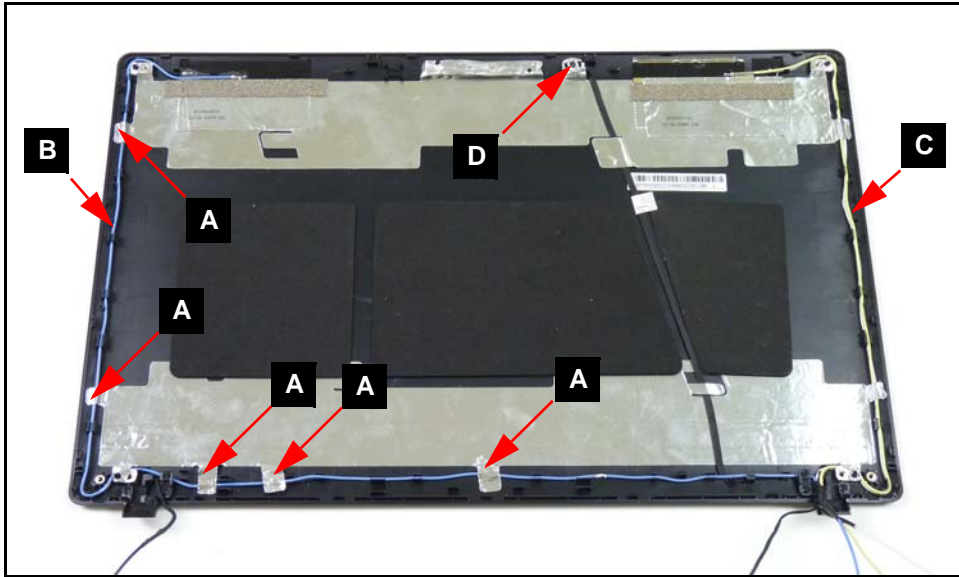

Figure 3-64. LCD Module Cover without Panel
1. Lift foil tabs (A) covering left WLAN and 3G antennas (B). (Figure 3-64)
4. Remove left WLAN and 3G antennas (B) from LCD module cover. (Figure 3-64)
5. Repeat steps 1 to 4 for right WLAN and 3G antennas (C).
1. Install left WLAN and 3G antennas (B) on LCD module cover. (Figure 3-64)
3. Install left WLAN and 3G antennas (B) in cable guides. (Figure 3-64)
4. Secure foil tabs (A) covering left WLAN and 3G antennas (B) to LCD module cover.
5. Repeat steps 1 to 4 for the right WLAN and 3G antennas (C).
1. Locate module (D) on LCD module cover. (Figure 3-64)
2. Lift foil tabs (A) covering module cable (B).